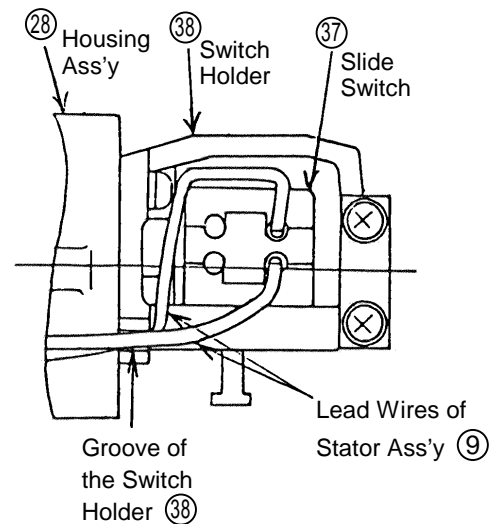
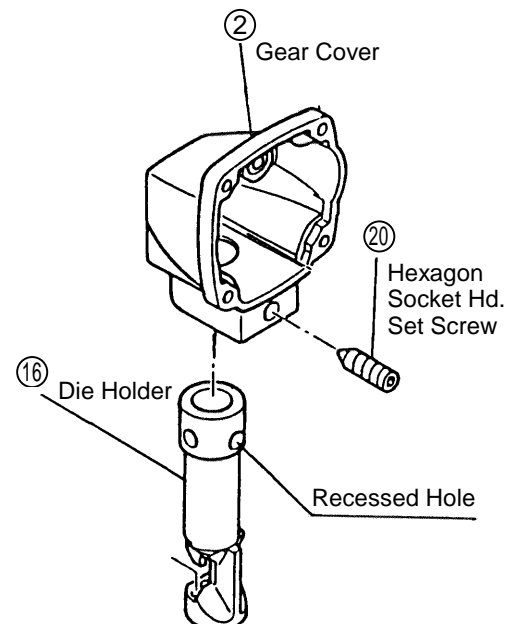

Fig. 10
Fig. 11
(1) Reassembly of the Housing Section:
- A. Prior to reassembly of the Stator Ass'y ⑨, insert the Slide Bar ②⑤ into the Housing Ass'y ②⑧, mount Slide Switch Knob (B) ②⑦ so that it is properly aligned with the Slide Bar ②⑤, and assemble them tightly with the M4 x 12 Flat Hd. Screw ②⑥.
- B. After connecting the two leadwires of the Stator Ass'y ⑨ to the Slide Switch ③⑦ as illustrated in Fig. 10, push them into the groove provided on the Switch Holder ③⑧ as shown.
(2) Reassembly of the Gear Cover Section:
- A. Grease (Hitachi Motor Grease No. 29, Code No. 930035, is recommended) is used inside the Gear Cover ②. Prior to reassembly, thoroughly remove the old grease and apply fresh grease liberally to the following, parts: the pinion portion of the Armature ⑦, the Second Pinion Gear ③, the Spindle ②③, the gear portion of the Spindle, the Connecting Rod Ass'y ②①, the M152112 Needle Bearing ②②, the needle bearing portion of the Inner Cover ④, the Piston ①③, the Punch ①⑤, and the inner circumference of the Die Holder ①⑥ where the Piston slides.
- B. When press-fitting the M152112 Needle Bearing ②② into the Connecting Rod Ass'y ②① with a hand press, fit an appropriate jig against engraved surface end of the Needle Bearing to push it properly into the Connecting Rod Ass'y.
- C. When reassembling the Die Holder ①⑥ into the Gear Cover ② (see Fig. 11), carefully ensure that the M8 x 20 Hexagon Socket Hd. Screw ②⑩ is properly aligned with the recessed hole on the Die Holder. Then, tighten the M8 x 20 Socket Hd. Screw ②⑩ to rated torque.